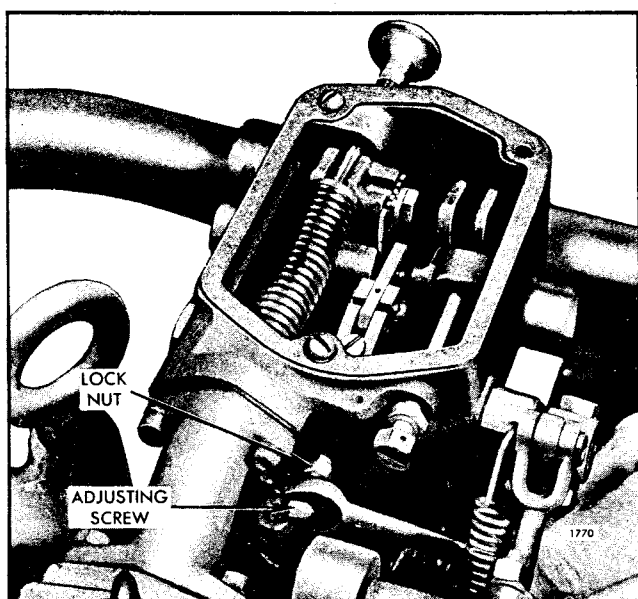

Fig. 5 - Setting Maximum Speed Adjusting Screw
3. Loosen the lock nut (Fig. 5) and back off the maximum speed adjusting screw approximately 3/8 ".
3. Turn the maximum speed adjusting screw (Fig. 5) in lightly until contact is felt with the linkage in the governor.